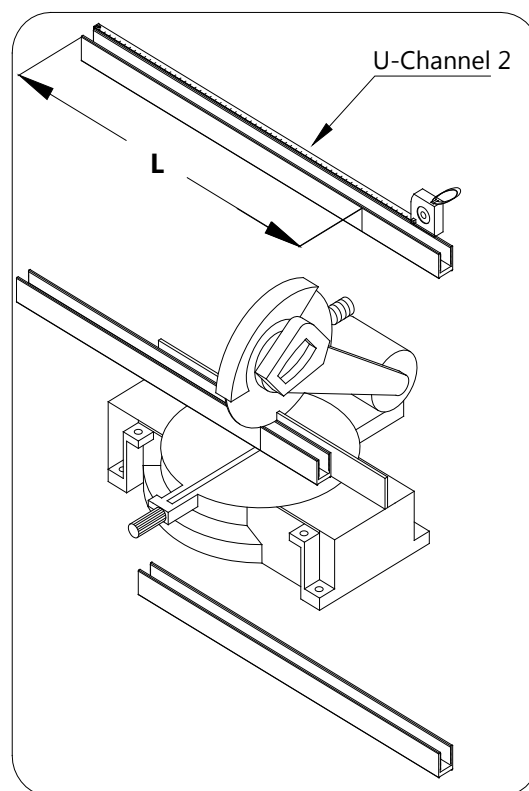

Fig 14
11. Cut the bottom **U-channel 2 (#29)** to **24"** (see note** below). (Fig 14)